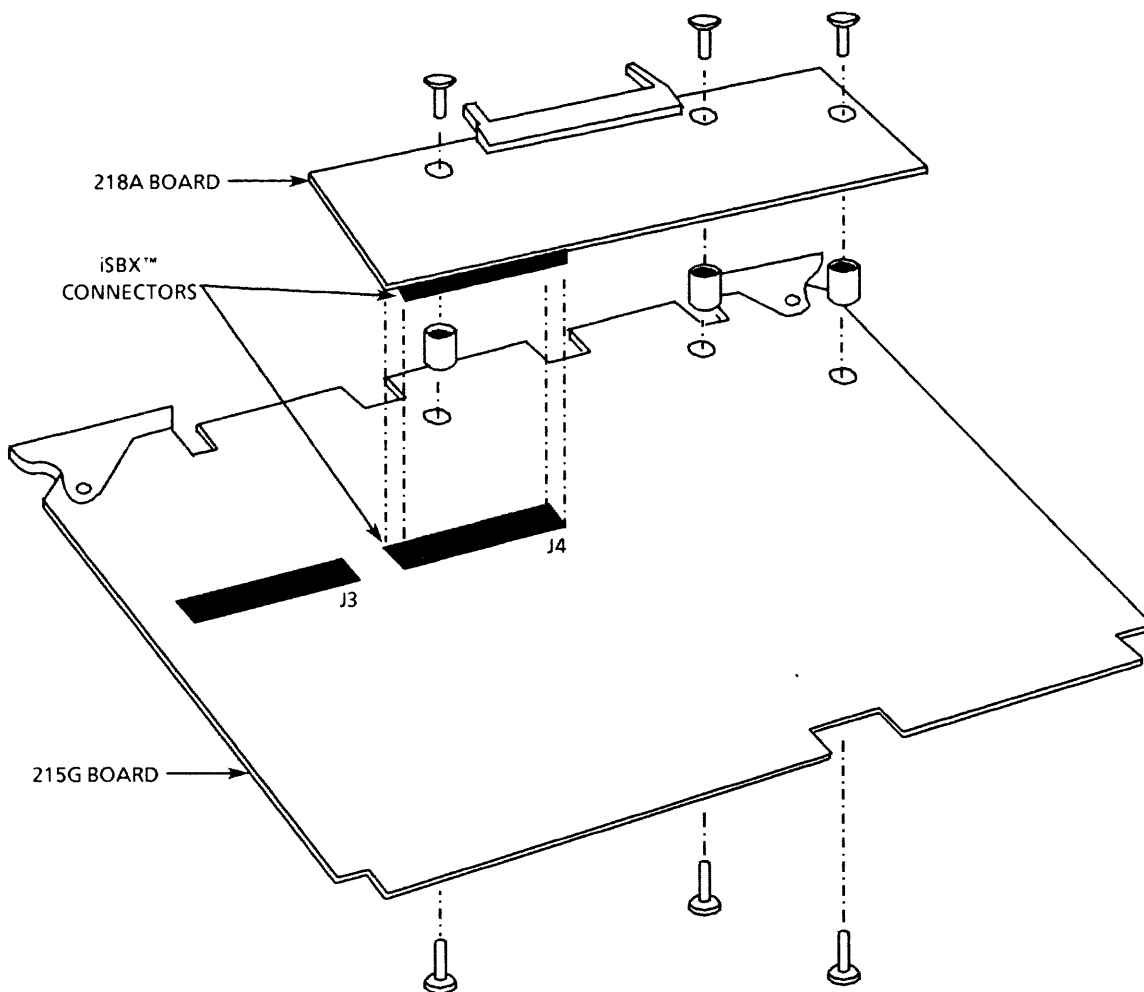

Figure 3-4. Installing 218A Board on 215G Winchester Board
1. Carefully place the 215G Winchester board on a grounded, static-safe surface, component side up. Locate iSBX connector J4 (Figure 3-4).
4. With both boards component-side up, line up the mounting holes on the 218A board with the spacers on the 215G board (Figure 3-4).